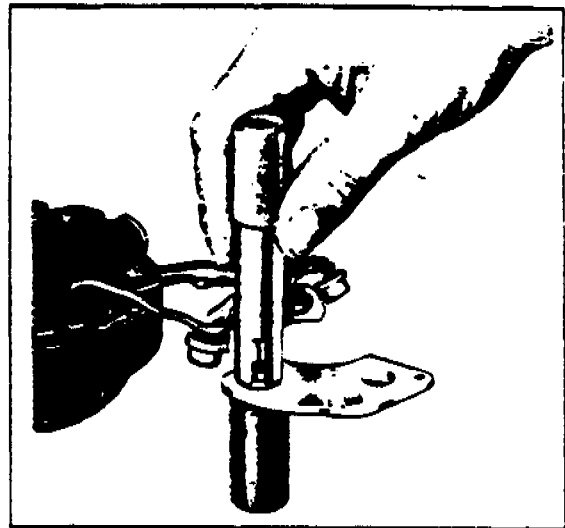

FIGURE 9-27j. INSTALLATION OF RECTIFIER
- b. Carefully install the rectifiers in the slip ring end head or rectifier mounting plate by supporting the unit and using the special tools illustrated in Figure 9-27j.